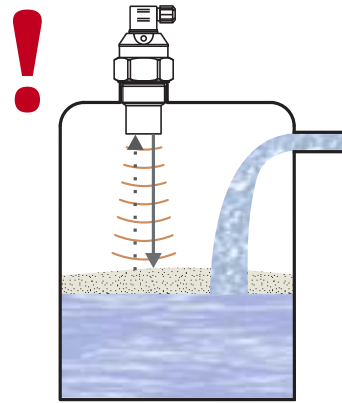

Fig. 5: Thick foam on the surface
- **Foam** on the level absorbs the acoustic wave reflection which might cause malfunction of the level meter. For mounting find the location where the foaming is as low as possible (Fig. 5).